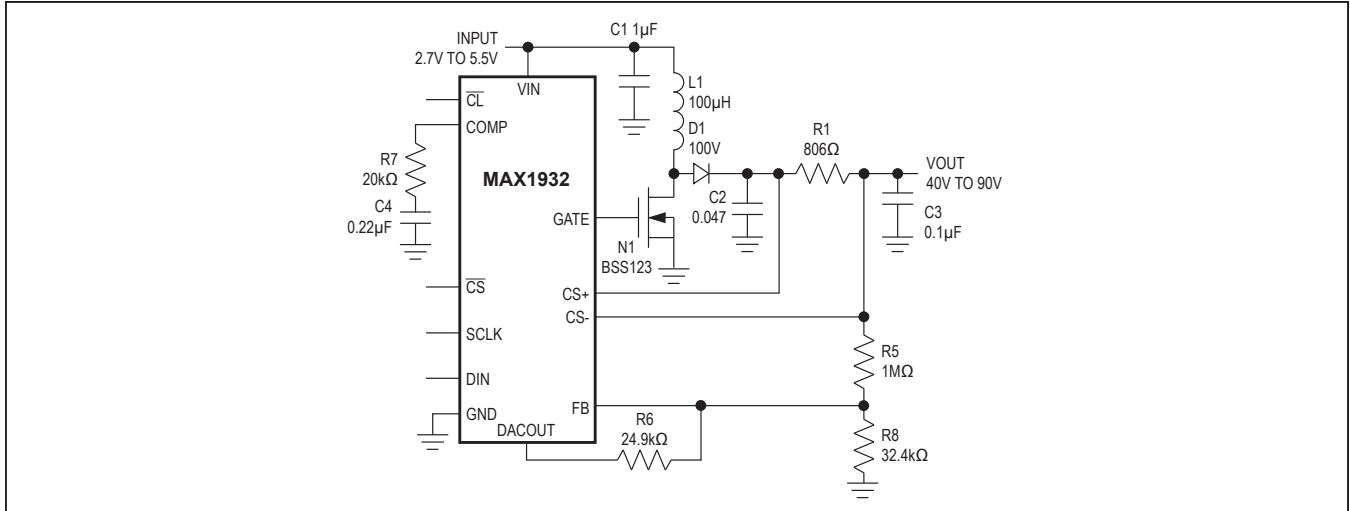
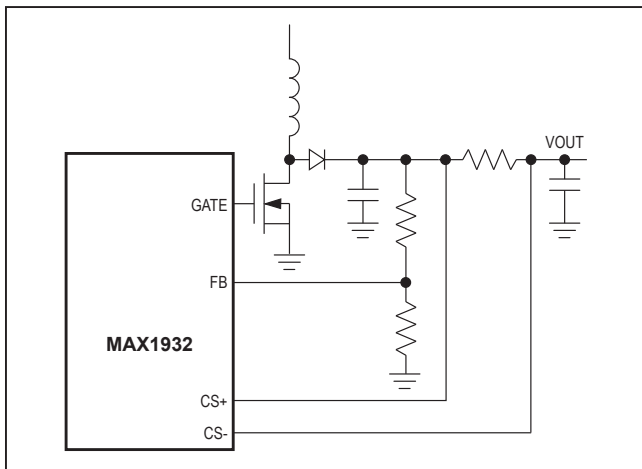

Figure 2. Typical Operating Circuit
Figure 3. Taking Feedback Ahead of Output Filter
The MAX1932 uses an external resistor at CS+ and CS- to sense the output current (see Figure 2). The typical current-limit threshold is 2V.  $\overline{CL}$  is designed to help find the optimum APD bias point by going low to indicate when the APD reaches avalanche and that current limit has been activated. To minimize noise,  $\overline{CL}$  only changes state on an internal oscillator edge.
An internal digital-to-analog converter can be used to control the output voltage of the DC-DC converter (Figure 2). The DAC output is changed through an SPI™ serial interface using an 8-bit control byte. On power-up, the DAC defaults to FF hex (1.25V), which corresponds to a minimum boost converter output voltage.
Feedback can be taken from in front of, or after, the current-limit sense resistor. The current-limit sense resistor forms a lowpass filter with the output capacitor. Taking feedback after the current-limit sense resistor (see Figure 2), optimizes the output voltage accuracy, but requires overcompensation, which slows down the control loop response. For faster response, the feedback can be taken from in front of the current-sense resistor (see Figure 3). This configuration however, makes the output voltage more sensitive to load variation and degrades output accuracy by an amount equal to the load current times the current-sense resistor value.
Many biasing applications require an adjustable output voltage, which is easily obtained using the MAX1932's DAC output (Figure 2).
Adjust the output voltage by connecting a voltage divider from the output ( $V_{OUT}$ ) to FB (Figure 2 with R6 omitted). Select R8 between 10k $\Omega$  to 50k $\Omega$ . Calculate R5 with the following equation:
**Table 1. Compensation Components for Typical Circuits (Figure 2)**